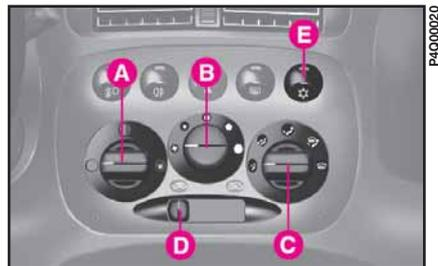

fig. 35
### CONTROLS fig. 35
1) Air temperature knob **A**-fig. 35: pointer in the blue sector.